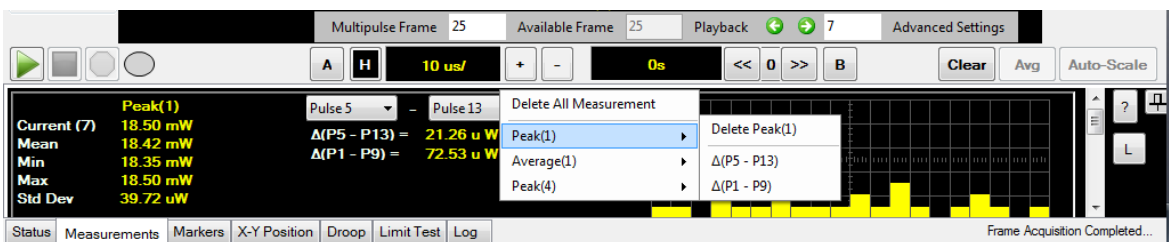

Figure 2-95 To delete multipulse measurement results on the multi-purpose pane
- 4 To remove the measurement functions results from the Measurement view, select the Measurement view area to display the delete measurement menu and select **Delete > All Measurements**. To remove only specific measurement function results, select the specific measurement function or delta to be deleted as shown in Figure 2-95.